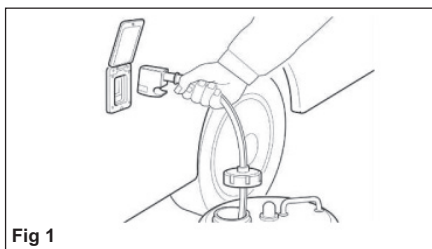

Fig 1
- Step 1 - Place pump into a full water container (Fig. 1)